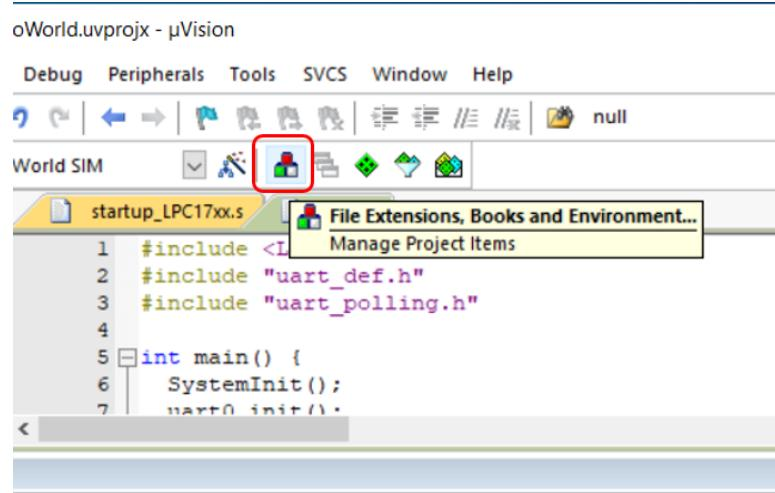

Figure 8.25: Keil IDE: Manage Project Items Button
1. Press the Managing Project Item button (see Figure 8.25).